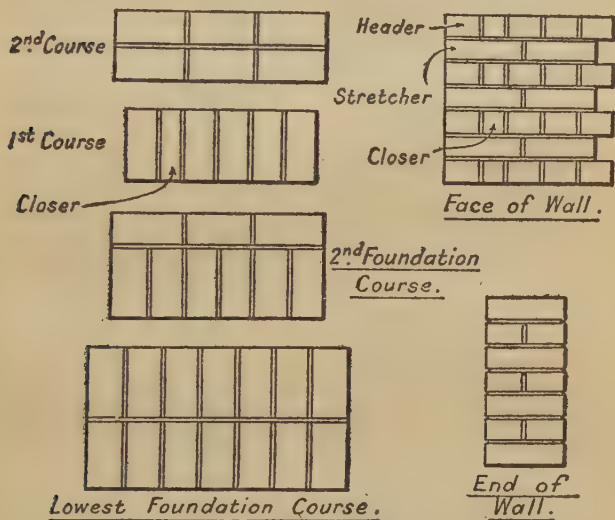

FIG. 6—NINE-INCH WALL
**9-in. Wall.**—The trench for a one-brick wall should be 2 ft. 6 in. wide, and two foundation courses are needed. The lowest is two bricks wide (18 in.) and the next course is a brick and a half wide (13½ in.). Fig. 6 shows these, and also the bonding of the wall courses. The bond used in this case is that known as "English," the courses consisting of headers in one and stretchers in that next above it. Note the use of a "closer"—2½ in.